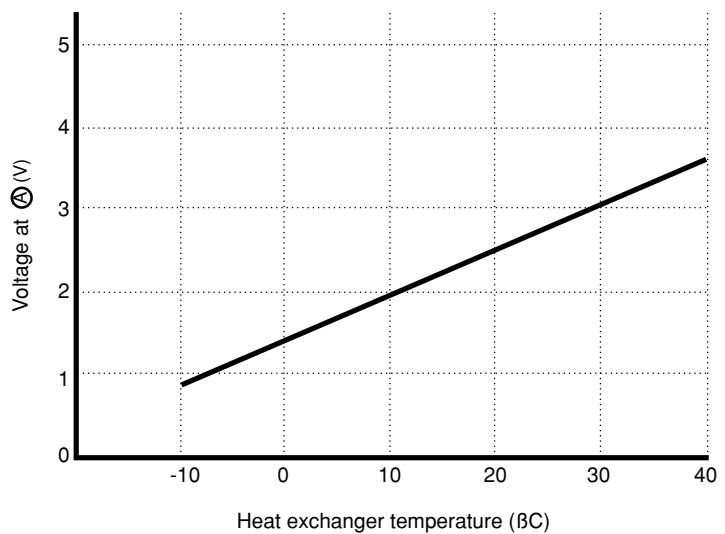

Fig. 9-2
- (1) Low-temperature defrosting during cooling and dehumidifying operation.
The voltage at (A) depends on the heat exchanger temperature as shown in Fig. 9-2.